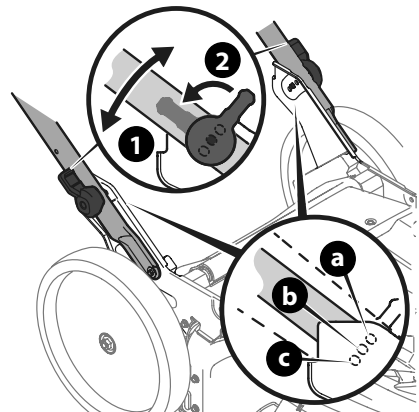

Figure 5
8. Place the handle into one of the three handle height positions, high (a), medium (b) or low (c), located on the handle brackets (Figure 5).
9. Rotate the handle adjustment levers until they are parallel with the handle to lock the pins into one of the handle height positions in the handle brackets (Figure 5).